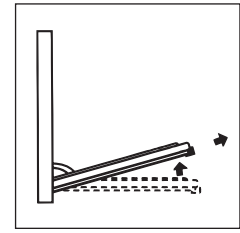

FIG. 7
- Now, shutting the door slightly, you can lift it out by pulling out the hooks "A" as shown in figure 7.